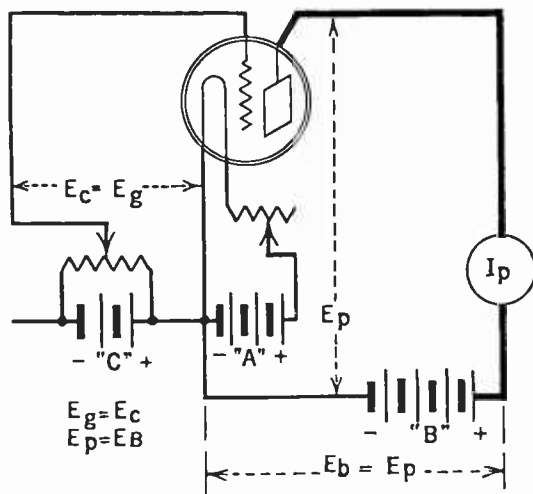
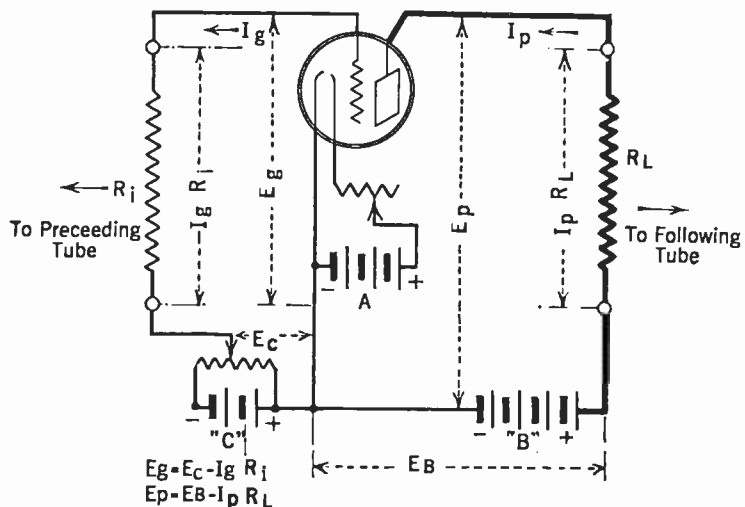
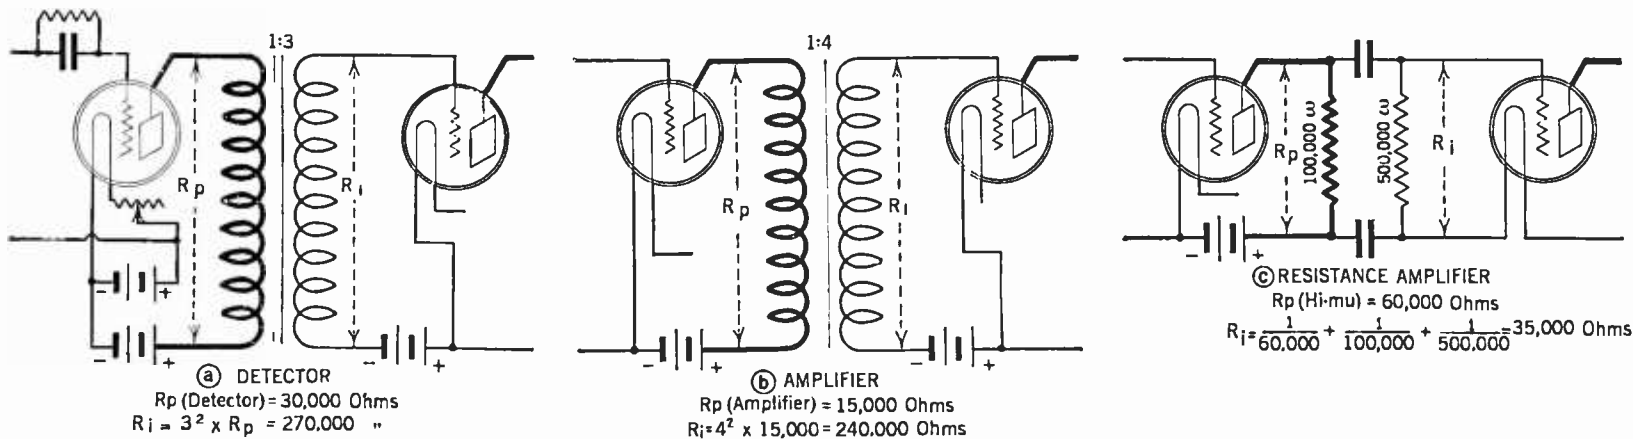
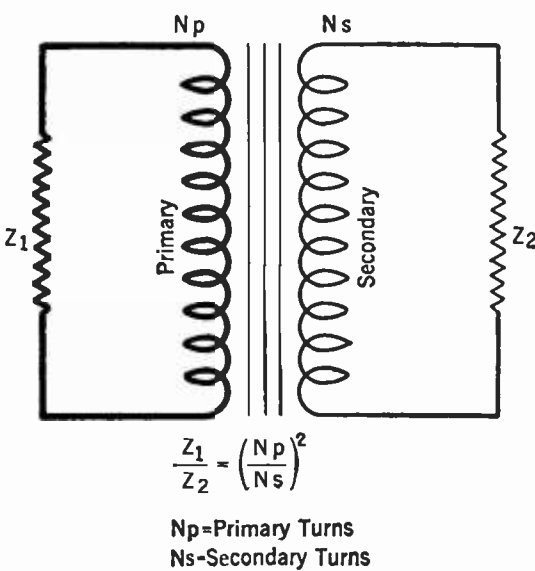

FIG. 1
FIG. 3
FIG. 4
FIG. 5
ASIDE from the tube and its accessory batteries, all that is necessary to measure static characteristics of tubes, which show in the form of curves the relations between grid, plate, and filament voltages and the corresponding currents, is a good voltmeter of double range, 0-10 and 0-100 volts, and a good milliammeter, and any one in his home laboratory can have many hours of enjoyment studying tubes by means of these instruments. With such apparatus diagrammatically represented in Fig. 1, let us carry out the following procedure:
Therefore, if we insert into the grid and plate circuits of the tube under test, a resistance approximating the impedance into which the tube normally looks we shall have the conditions of test more nearly like those occurring in practice. Fig. 3 contrasted with Fig. 1 shows these additions, and Fig. 4 the method of calculating the input and output resistance. The tube normally looks back into the output impedance of a similar tube which is "stepped up" by the square of the turn ratio of the connecting transformer. Fig. 5 shows how two differing impedances may be coupled together by means of a transformer. In this case Z_1 may be the output impedance of a semi-power tube and Z_2 the impedance of a loud speaker. If the turn ratio of the transformer obeys the formula
about 30,000 ohms—and coupled to it by means of a 3:1 ratio transformer, the tube looks back into approximately $30,000 \times (3)^2$ or $30,000 \times 9 = 270,000$ ohms. If the tube is the second of a two- or three-stage resistance amplifier employing high-mu tubes, the tube looks back into three impedances in parallel as shown in Fig. 4. In the case of the last tube in a set which works into the loud speaker, its output impedance will be approximately matched by the impedance of the
In Fig. 3 R_L and R_i represent the combined impedance of the tube and the connecting apparatus looking away from the tube under test.
Under these conditions, shown in Fig. 3, somewhat different curves result when one plots plate current against change in grid volts. In this case the plate voltage is not the B battery voltage but is less by the drop in the load resistance, and the voltage actually applied to the grid is not the same as the C battery but is less by the drop in the input resistance—when the grid goes positive.
Consideration of the curves in Fig. 5 and those in *Popular Radio* already mentioned show that the greater the impedance in the plate circuit the straighter will be the characteristic. Some loud speakers have very little impedance at low frequencies so that the curve worked over is not straight but curved and a peculiar distortion results when bass viols, or kettle drums are played. The remedy lies in a lower impedance tube, say one of 4000 ohms, and some tube manufacturers are making preparations to supply such tubes. They will necessarily have a low amplification factor and will draw considerable plate current but will be capable of delivering considerable power. Output transformers useful in overcoming this type of distortion are manufactured by the General Radio Company, and are designed to couple low impedance speakers of the cone type to 201-A tubes and to low impedance power tubes.
and $\frac{\mu}{\sqrt{R_p}}$ and knowing the input impedance as figured in Fig. 4 and the voltage that is being placed on the grid of an amplifier, it is a simple matter to compute the power and voltage amplification and the actual power output in watts delivered to a loud speaker. It has already been mentioned that a reasonable amount of power to require from an amplifier is .06 watts which will give a good comfortable signal from an average loud speaker of the cone type without overloading distortion.